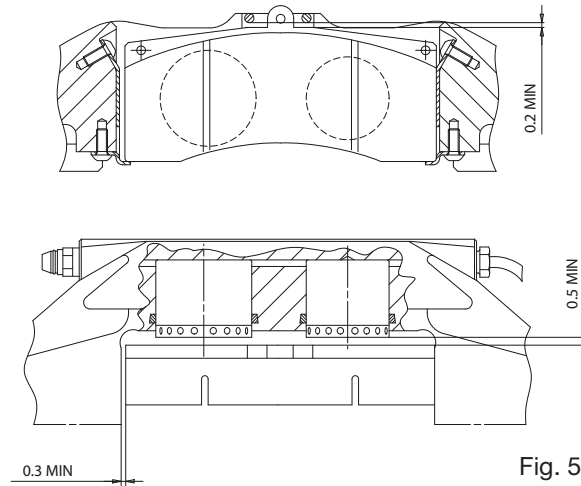

Fig. 5
f. Assembly and disassembly of the pads must occur without any force; the pads radial and lateral clearance inside the caliper must be 0,2 mm MIN; with the pistons in backward position, the clearance between them and the back plate must be 0,5 mm MIN (see Fig. 5).